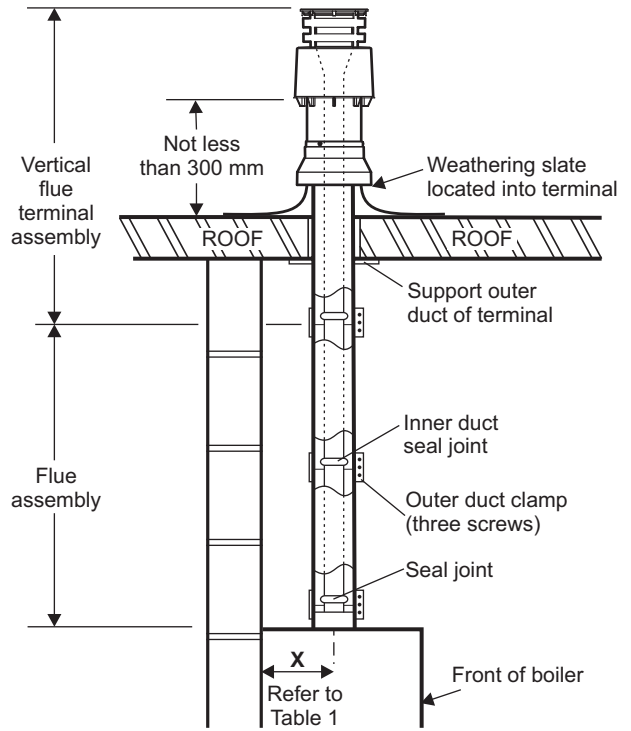

Fig. 2
- Position the vertical terminal assembly into the weathering slate ensuring that the slate is located under the lip of the terminal as shown in Fig. 2.
- Connect the vertical terminal ducts to the flue assembly, as shown in Fig. 2. Secure with the outer duct clamp (three screws).